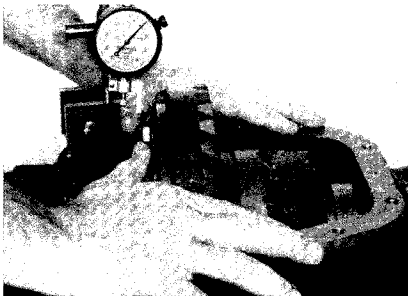

Figure 3-43
| (2) Total amount of space measured with gear set assembled in carrier as shown in step 44, figure 3-43 | Measurement B _____ |
| (2) Total amount of space measured with gear set assembled in carrier as shown in step 44, figure 3-43 | Measurement B .065" (1.65 mm) |